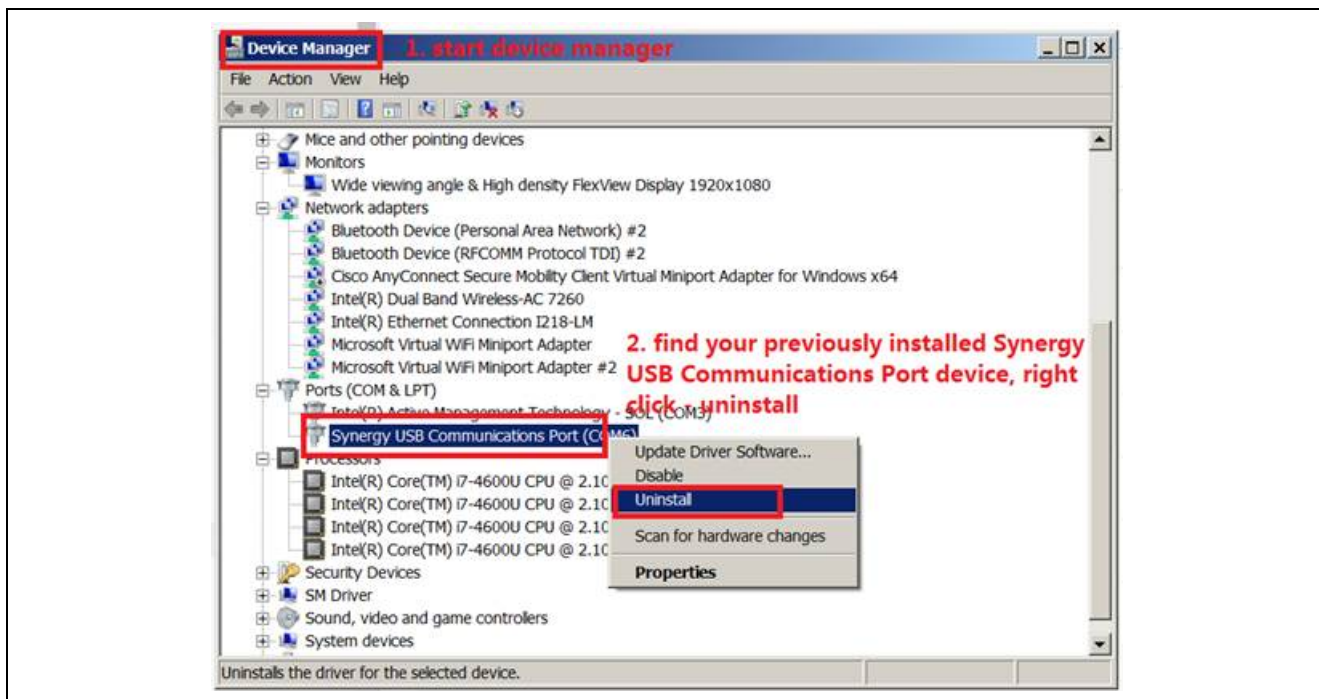

Figure 5 Device Manager in Windows 7
3. Locate the Synergy Kit (configured as a USB CDC device) in Device Manager under **Ports (COM & LPT)**. The device will show up as <Name of the device> as shown in Figure 5 below.